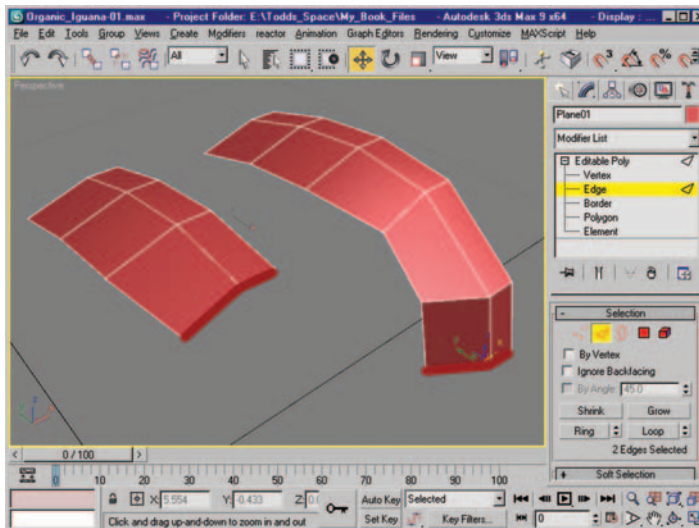

Figure 9.3 Edge selection and resulting mesh after shift-dragging the edges.
3. Select the two edges shown in Figure 9.3 (left), and shift-drag them to create the overall shape and placement seen in Figure 9.3 (right).